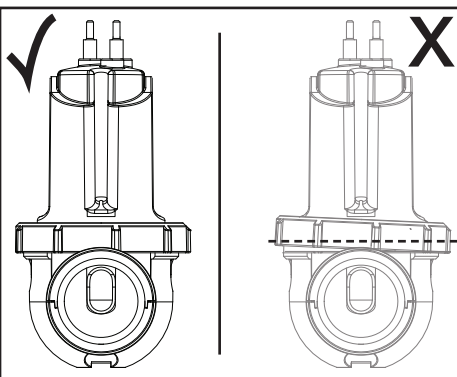

Figure 16. Locking Ring Level
**NOTE** Ensure the locking ring is level when engaging the threading housing (see Figure 16).